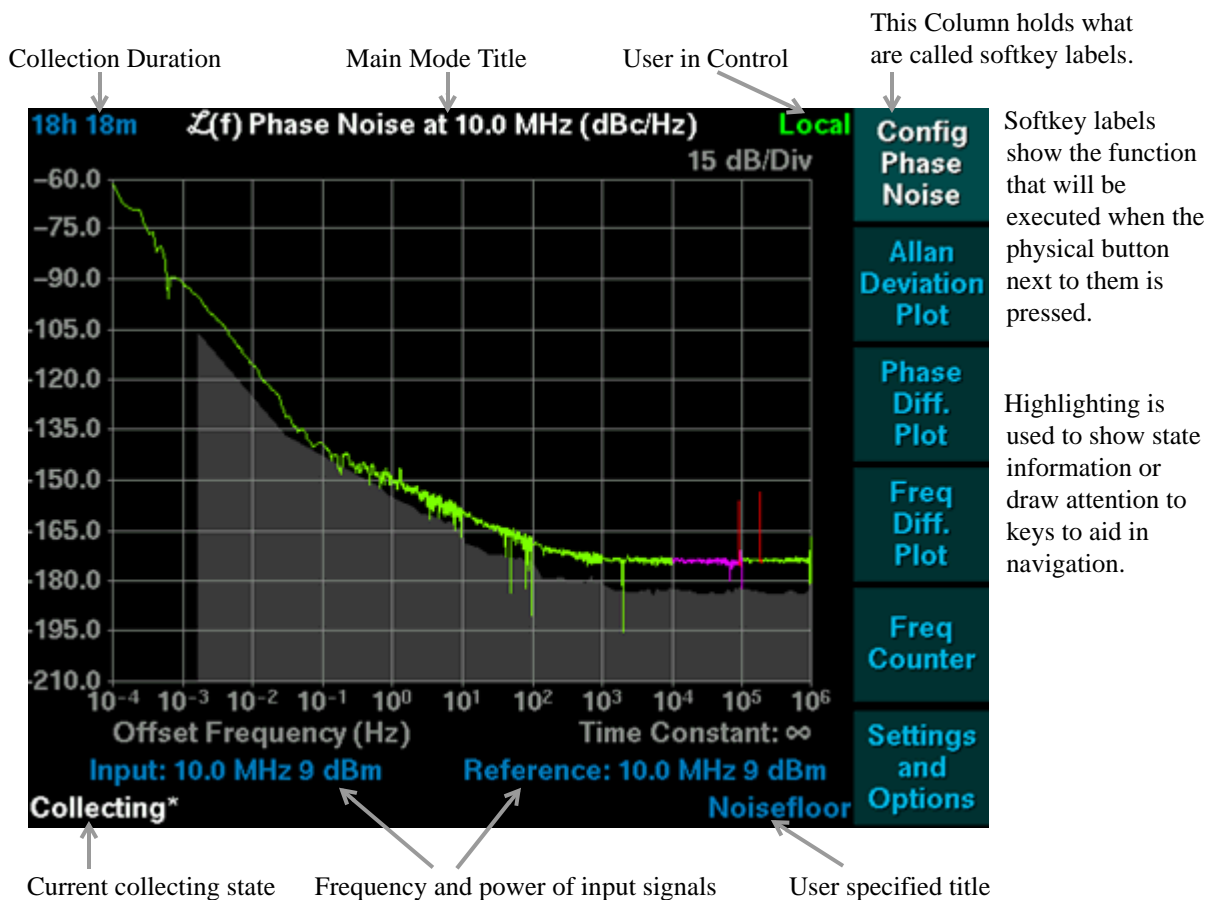
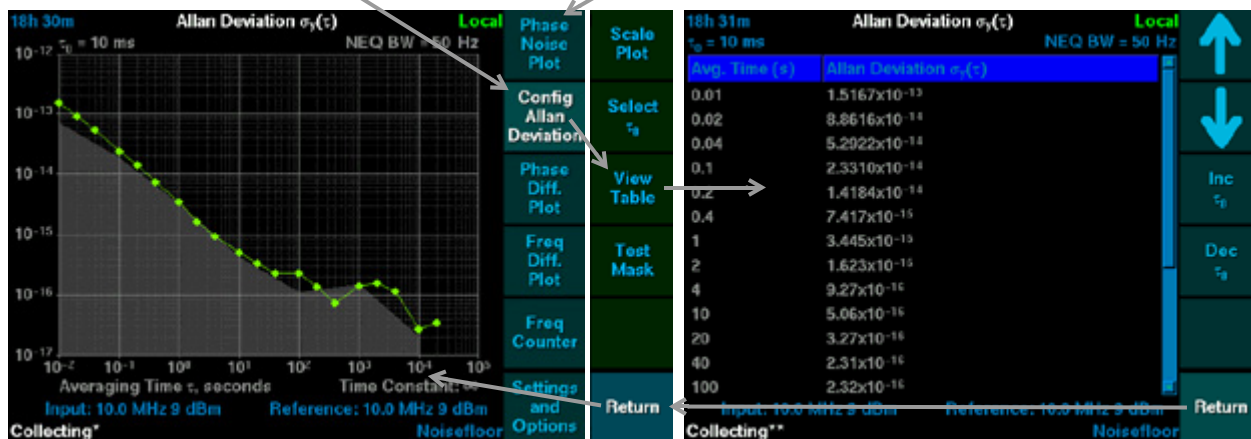

Figure 3: Default Main Screen
Figure 4: Softkey Navigation
- When *Ready* displays in the status field (see Figure 3 on page 11 and “3.2.1 Collecting State” on page 13) the instrument is ready for normal operation.
Figure 3 depicts the default screen after the test set has been collecting data for several hours. It names and describes the major components. These are described in section “3.2 Main Screen Components” on page 13.
The column labeled “softkeys” in Figure 3 mirrors the set of buttons on the test set front panel (Figure 1 on page 4 shows them side by side). The labels indicate the effect pressing the corresponding button will have.
Starting with the phase noise plot as shown in Figure 3, pressing the **Allan Deviation Plot** button would:
Pressing the same button at this time will enter a softkey menu (center in the figure below) that allows for scale and test mask configuration, τ_0 selection, or viewing the Allan deviation in table format. This softkey menu has a highlighted **Return** softkey to return to the previous menu. Figure 4 shows the flow from the Allan deviation plot, to its table format, and back to the plot.
This manual uses the following convention to describe the softkey-based navigation flow shown in Figure 4 on page 12:
This section provides a description of the main screen components shown in Figure 3 on page 11.
- *Collecting* state is entered once initialization is complete and the test set has begun collecting and presenting data. When *Collecting* state is reached the test set starts displaying measurements and tracking how long it has been collecting. See the top left corner of Figure 3 for an example of the collection duration.
To avoid interference between *Local* and *Remote* users, certain operations and configuration settings require that the user wishing to perform them be in control of the unit (or willing to take control). The user who is in control of the unit is identified in the top right corner of Figure 3. The figure shows that the *Local* user has initiated data collection. If a *Remote* user were to issue the stop command, they would receive a warning reminding them that they are not in control of the test set. At this point the remote user can take control from the local user. See "7.2.1 Taking or Yielding Remote Control" on page 56 for details on taking *Remote* control.
A short string shown in the bottom right corner of Figure 3 can be entered using a USB keyboard or set on the network interface. One title may be assigned at a time. The title appears on all printouts and can thus be used to correlate data sets, identify the owner or input signal sources. The title can be up to 34 characters long.
Figure 3 on page 11 and Figure 4 on page 12 are examples of plots. Four of the five main screens are plots. Plots can be configured in various ways described in detail in later chapters dedicated to data set configuration.
There are two types of tables. The first is a read-only table such as the Allan deviation table. The second type is an interactive table. Both types present softkeys which scroll the table up or down as can be seen in the example table on the right side of Figure 4 on page 12. The scroll keys have different effects depending on the type: